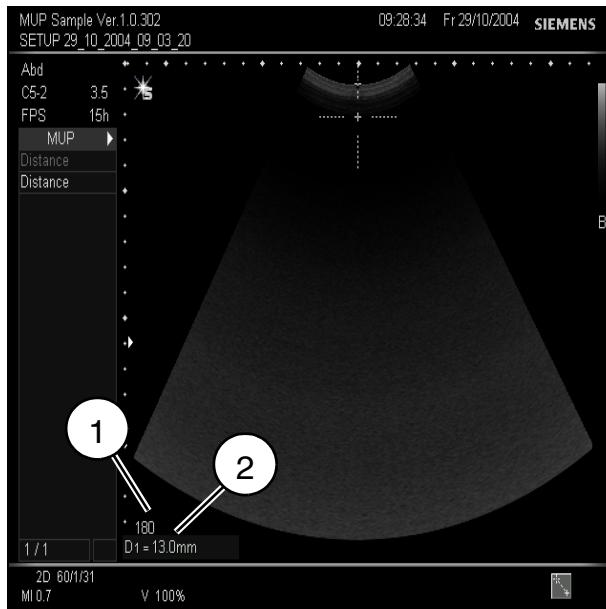

Fig. 3
- Set the value (1/Fig. 3, 4) to 180 with the "Image field/zoom" knob.
- Move to the center of the crosshair with the trackball. A value of $13\text{ mm} \pm 1\text{ mm}$ (2/Fig. 3) must appear in the display (2/Fig. 3).